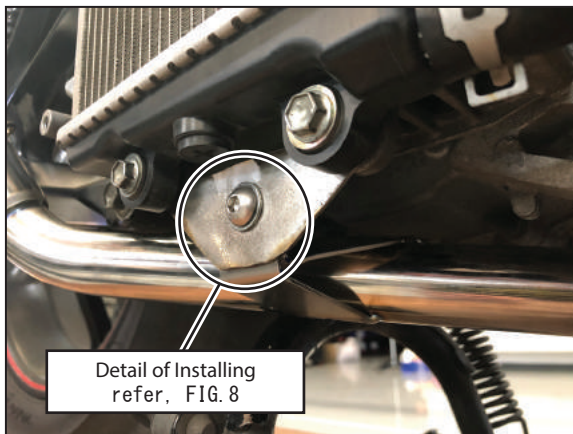

FIG. 7
- 6) Mount Exhaust Pipe Bracket #1 onto Exhaust Pipe Bracket #2 with Button Bolt M8 x 20, 2-Washer M8 x 20 and Flange Nut M8 Tighten bolt by hand only at this stage (See Fig 7, 8).